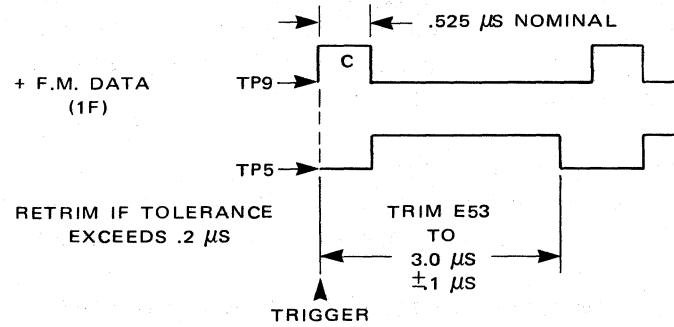

Figure 5-13 WINDOW ONE-SHOT TIMING
3. TP 5 — Window one-shot output in Data/Clock separator circuit. The window one-shot triggers and retriggers on FM Data pulses. The one-shot time period, in conjunction with +FM data pulses at TP9, should be examined and the trim resistor (E53) should be selected so that the time period from the leading edge of FM Data pulse to the trailing edge of window one-shot is a period of $3.0 \pm 0.1 \mu\text{s}$. (See Figure 5-13)